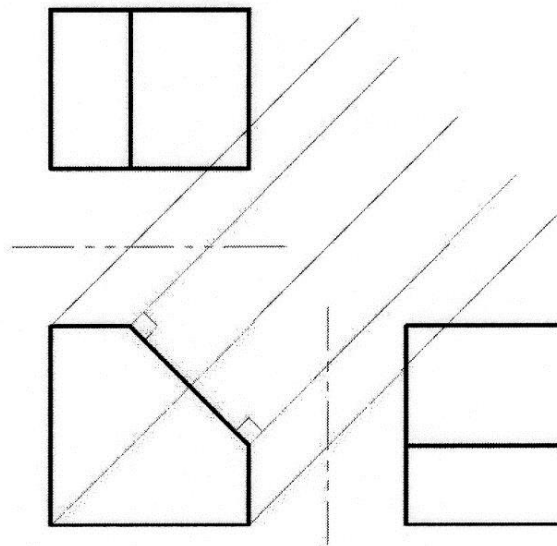

Figure 5. Projecting Lines Perpendicular to Inclined Surface.
- c. Draw construction lines perpendicular to the surface/line/point of interest. These lines should go in a direction, and far enough that leaves enough space for the view (Figure 5).